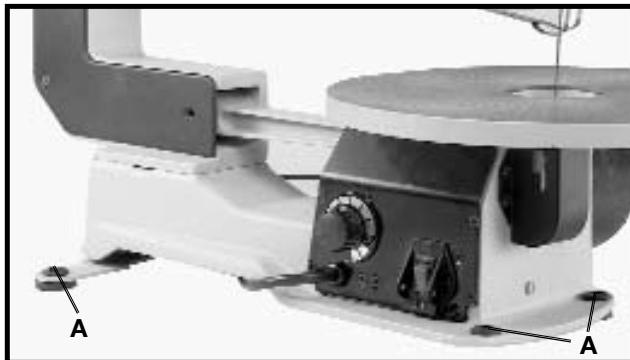

Fig. 16
WARNING: Your scroll saw **MUST** be securely fastened to a stand or workbench using the holes in the four rubber feet, three of which are shown at (A) Fig. 16. **IMPORTANT:** When mounting the saw to a stand or workbench **DO NOT** over-tighten mounting bolts. Leave some cushion in the four rubber feet (A) for absorbing noise and vibration.